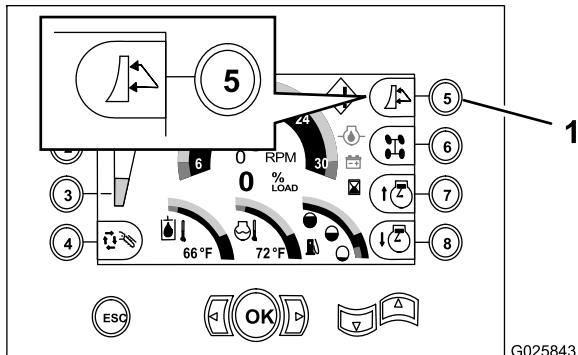

Figure 49
- Switch the machine to the backfill blade function by pressing button 5 on the command center until the icon for the backfill blade appears (Figure 49).